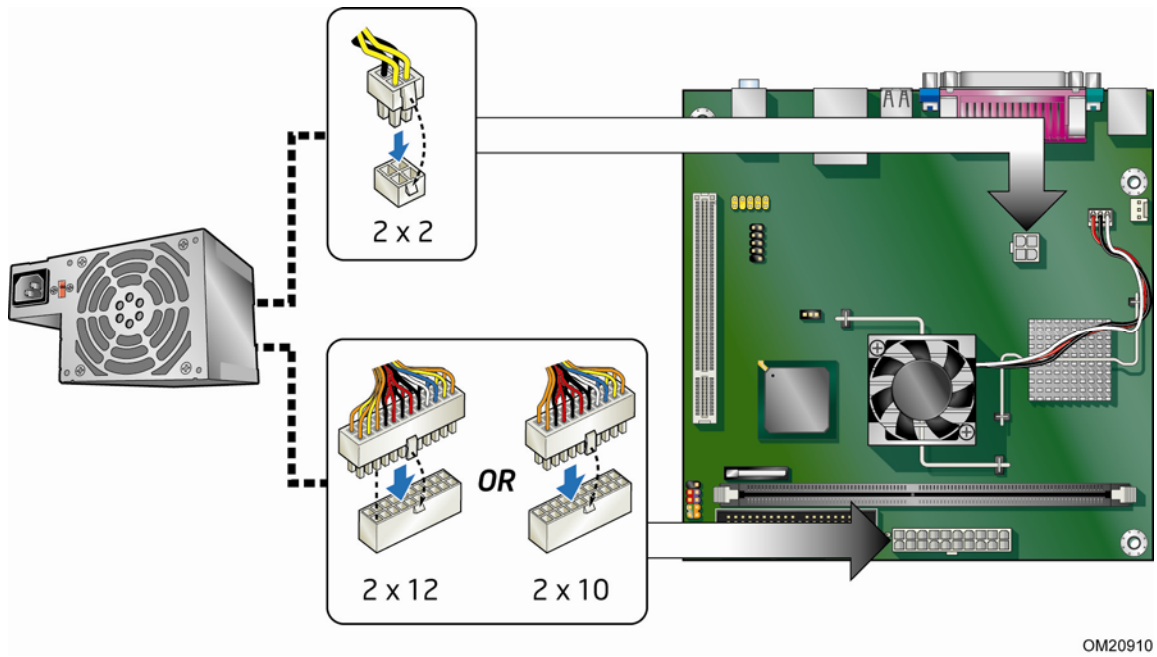

Figure 13. Connecting a 2 x 10 or 2 x 12 Power Supply Cable
Figure 13 shows the location of the power connectors.
2. Connect the 12 V processor core voltage power supply cable to the 2 x 2 connector (Figure 13).
3. Connect the main power supply cable (2 x 10 or 2 x 12) to the 2 x 10 connector (Figure 13).